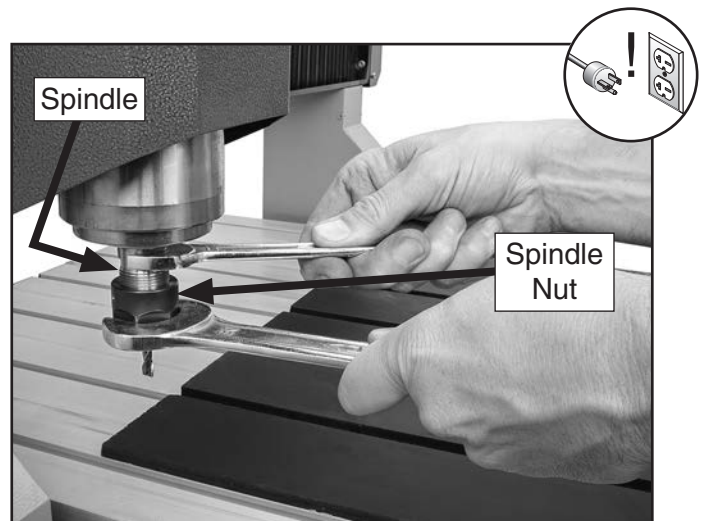

Figure 19. Changing cutter.
3. Secure spindle with 21mm open-end wrench (see **Figure 19**).
5. Remove spindle nut with 30mm open-end wrench (see **Figure 19**), then remove collet and cutter.